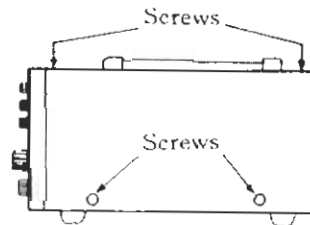

Fig. 5-1 Removal of covers (right side shown).
2. Referring to Fig. 5-1, remove four screws as shown for covers on each side, and take off the covers.